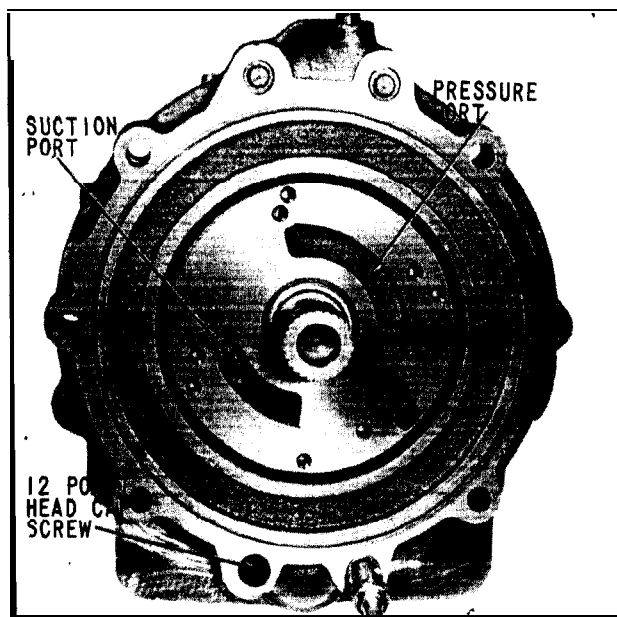

Fig. 61 Mounting Adapter to Case
adapter is squarely in place, install the four (4) cap screws, as shown in (Fig. 61). The adapter can now be pulled down squarely, until contact with the case is made, by alternately tightening the cap screws a small amount and checking frequently for binding. When adapter is pulled down as far as possible, tighten the four (4) cap screws to 27 to 37 pounds-feet torque.
The front pump assembly without the backing plate can only be used with the new (71C-A8) adapter (Fig. 61), the new key (4873), and the new version of the drive gear with the relocated pump keyway. For identification of the proper parts see (Fig. 90).